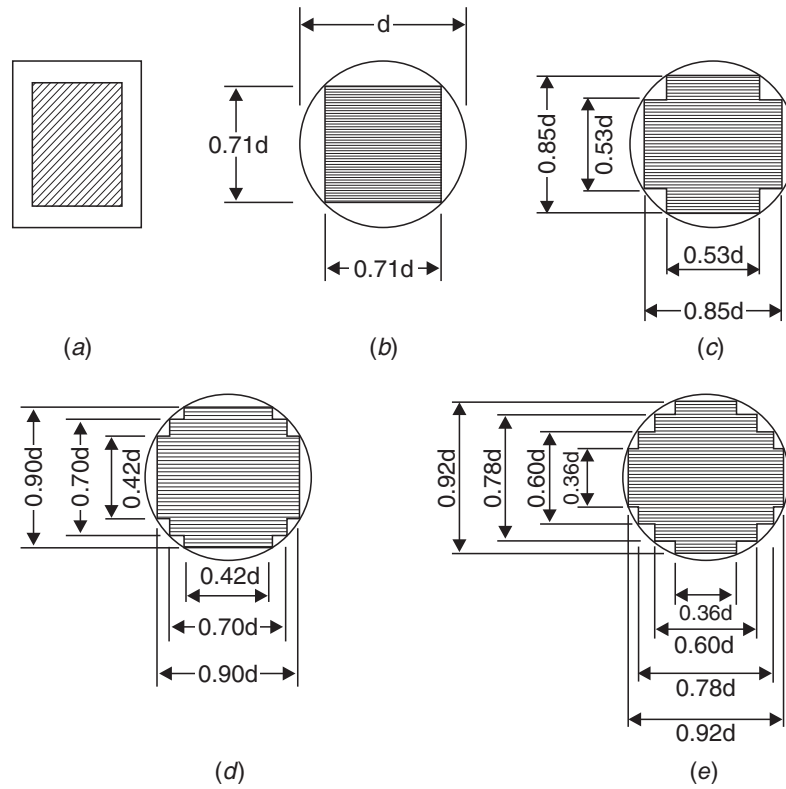

Fig. 6. Various types of cores.
- Fig. 6 shows the different types of cores used in core type transformers.
Rectangular cores [Fig. 6 (a)] with rectangular cylindrical coils can be used for small size core-type transformers. For large size transformers it becomes wasteful to use rectangular cylindrical coils and so circular cylindrical coils are preferred. For such purposes, 'square cores' may be used as shown in Fig. 6 (b) where circles represent the tubular former carrying the coils. Evidently a considerable amount of useful space is still wasted. A common improvement on the square core is to employ a 'cruciform core' [Fig. 6 (c)] which demands, atleast, two sizes of core strips. For very large transformers, further core stepping is done as in Fig. 6 (d) where atleast three sizes of core plates are necessary. *Core stepping not only gives high space factor but also results in reduced length of the mean turn and the consequent I^2R loss. Three stepped core is the most commonly used although more steps may be used for very large transformers as shown in Fig. [6 (e)].*